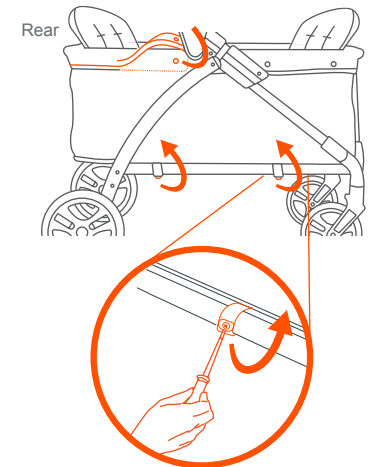

Fig. 17b
- Remove the screws from the bottom of the frame (Fig. 17b).
- Undo the hook and loop on the rear end of the frame (Fig. 17b).